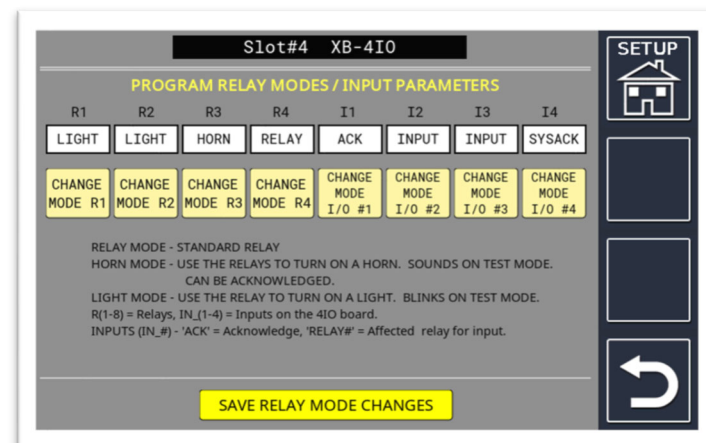

Figure 18.12
**Program Relay/Input Modes (MCU): (MCU uses Figure 18.12 on Ver. P001AW and earlier).**
(See Figure 18.12)